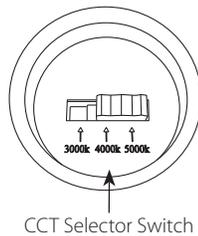

FIG. 6
4. Tighten the **Locking Bolt** (**Fig. 6**).
2. Adjust the CCT by sliding the respective switch to the desired value as shown in Fig. 6.